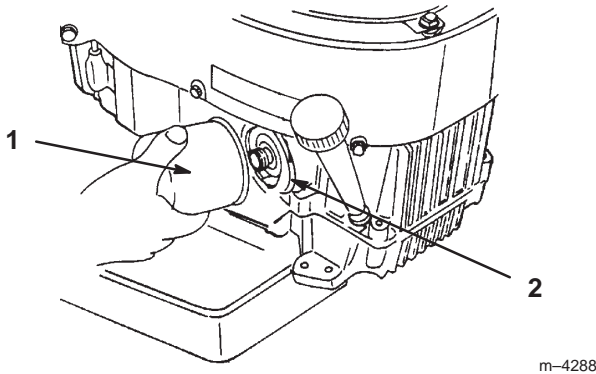

Figure 28
2. Remove the old filter (Fig. 28).
3. Apply a thin coat of new oil to the rubber gasket on the replacement filter (Fig. 28).
4. Install the replacement oil filter to the adapter. Turn the oil filter clockwise until the rubber gasket contacts the filter adapter, then tighten the filter an additional 3/4 turn (Fig. 28).